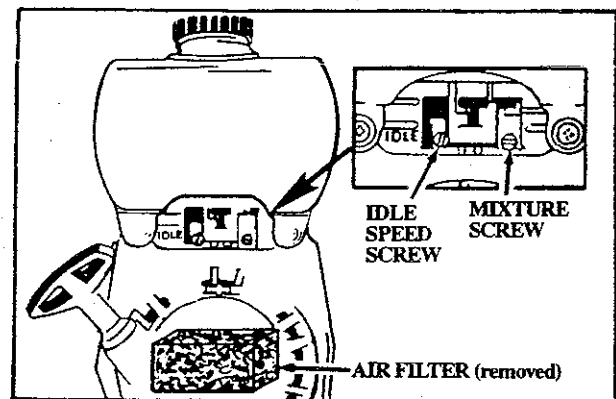

Figure 31
- e. Turn Mixture Screw (Figure 31) clockwise \rightarrow until fully closed, but do not overtighten to avoid damaging the needle seats. Open Mixture Screw one and one-eighth (1-1/8) turn counterclockwise \leftarrow .
- f. Turn Idle Speed Screw (Figure 31) clockwise \rightarrow until it stops. Open Idle Speed Screw five (5) full turns counterclockwise \leftarrow .